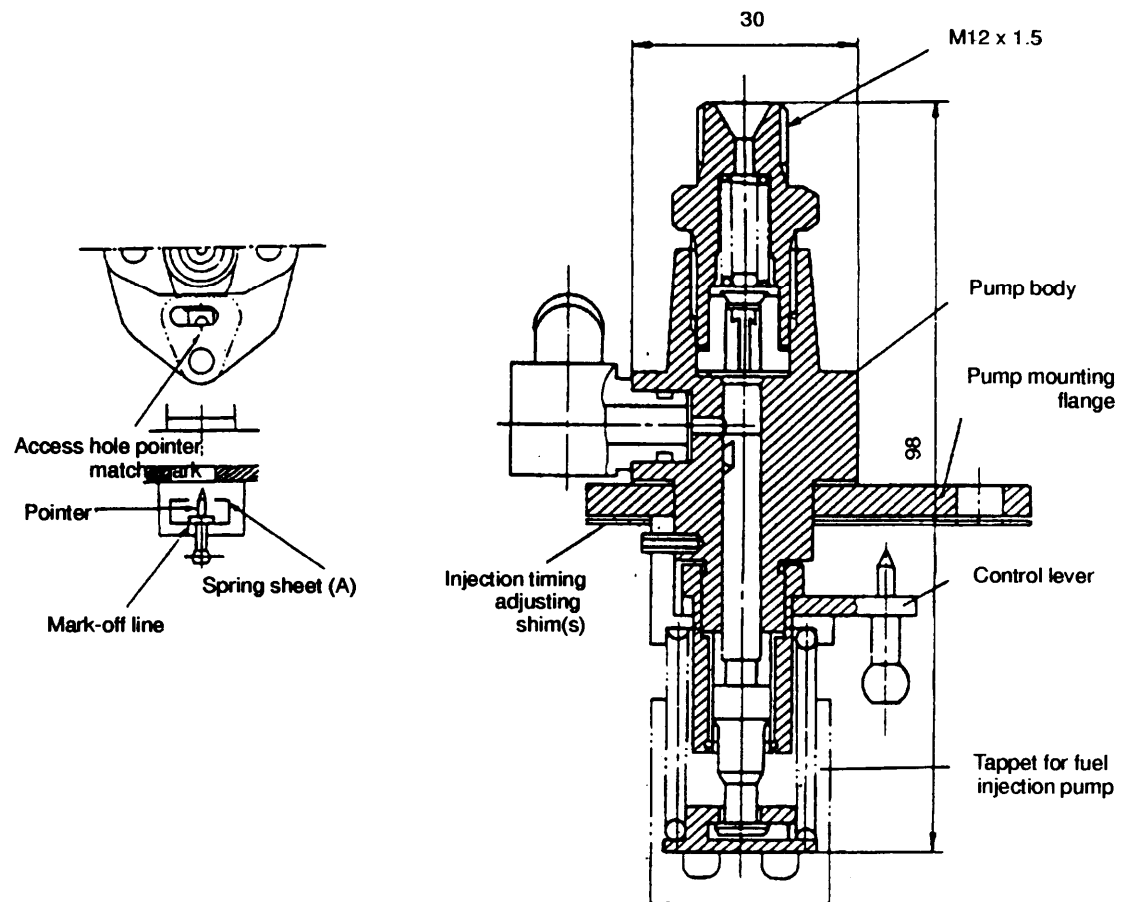

Figure 4-15. Configuration of Fuel Injection Pump
The access hole on fuel injection pump has an access hole pointer match mark. Make sure the pointer of the control lever lines up with the match mark. (Refer to Figure 4-15)
- (2) Adjust speed control lever knob until the control lever pointer lines up with access hole match marks. (Refer to Figure 4-15)